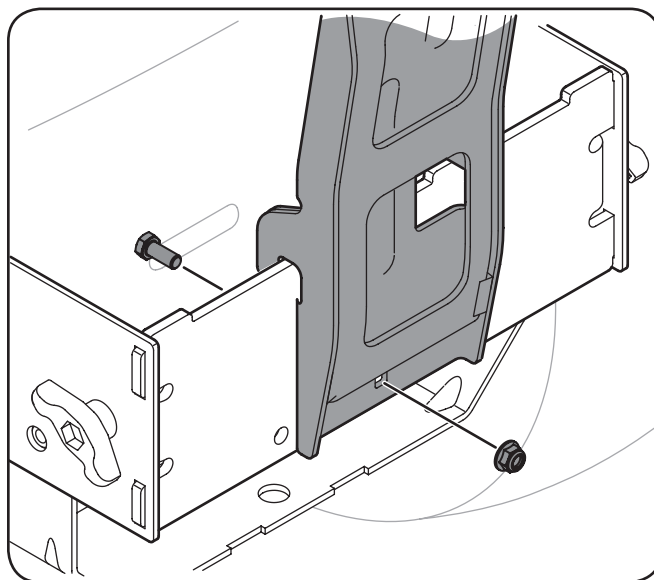

Figure 4-8
3. Install the vertical support bracket onto the mounting assembly of the tractor by hooking it over the hitch plate in the center, lining up the center mounting hole as seen in Figure 4-8.
4. Secure the vertical support bracket to the mounting assembly using a 5/16" bolt (710-3008) and flange nut packed (712-04063) in with the 689-00080A mounting kit. See Figure 4-8.